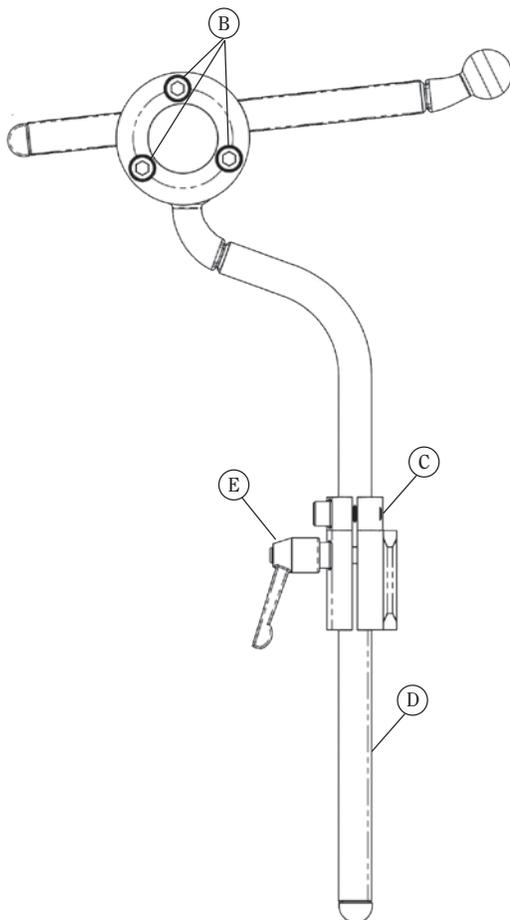
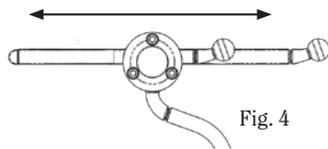

Fig. 1
Fig. 4
1. Assemble as shown in Fig. 1. Index pin on anti-rotational collar (Fig. 1, C) fits in to slot in top of detach receptacle (Fig. 1, D) to prevent rotation.
1. Vertical - Loosen the lever knob (Fig. 1, E) and adjust to the proper height and then lower the stop collar (Fig. 1, C) be sure to align the index pin in the slot on the detach mount. (Fig. 1, F) Vertical rod may be rotated for additional angle adjustment of pad / base plate assembly.
2. Horizontal - Loosen collar screws (Fig. 1, B) for depth adjustment (Fig. 2). Rotate horizontal rod 180° for increased angle pad / base plate assembly adjustment.
1. Assemble as shown in Fig. 1.
1. Vertical - Loosen the lever knob (Fig. 1, E) and adjust to the proper height and then lower the stop collar (Fig. 1, C). Vertical rod may be rotated for additional angle adjustment of pad/base plate assembly.
2. Depth and Angle Adjustment - Loosen 3 adjustment screws (Fig. 1, B) for depth and angle adjustment (Fig. 4&5). Rotate horizontal rod 180° for increased angle adjustment (Fig. 3). Reverse vertical rod 180° for increased adjustment (Fig. 3).